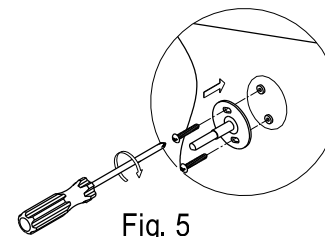

Fig. 5
- Step 5. Screw the mounting plate (with flat side up) to the wall with the mounting screws (fig 5).